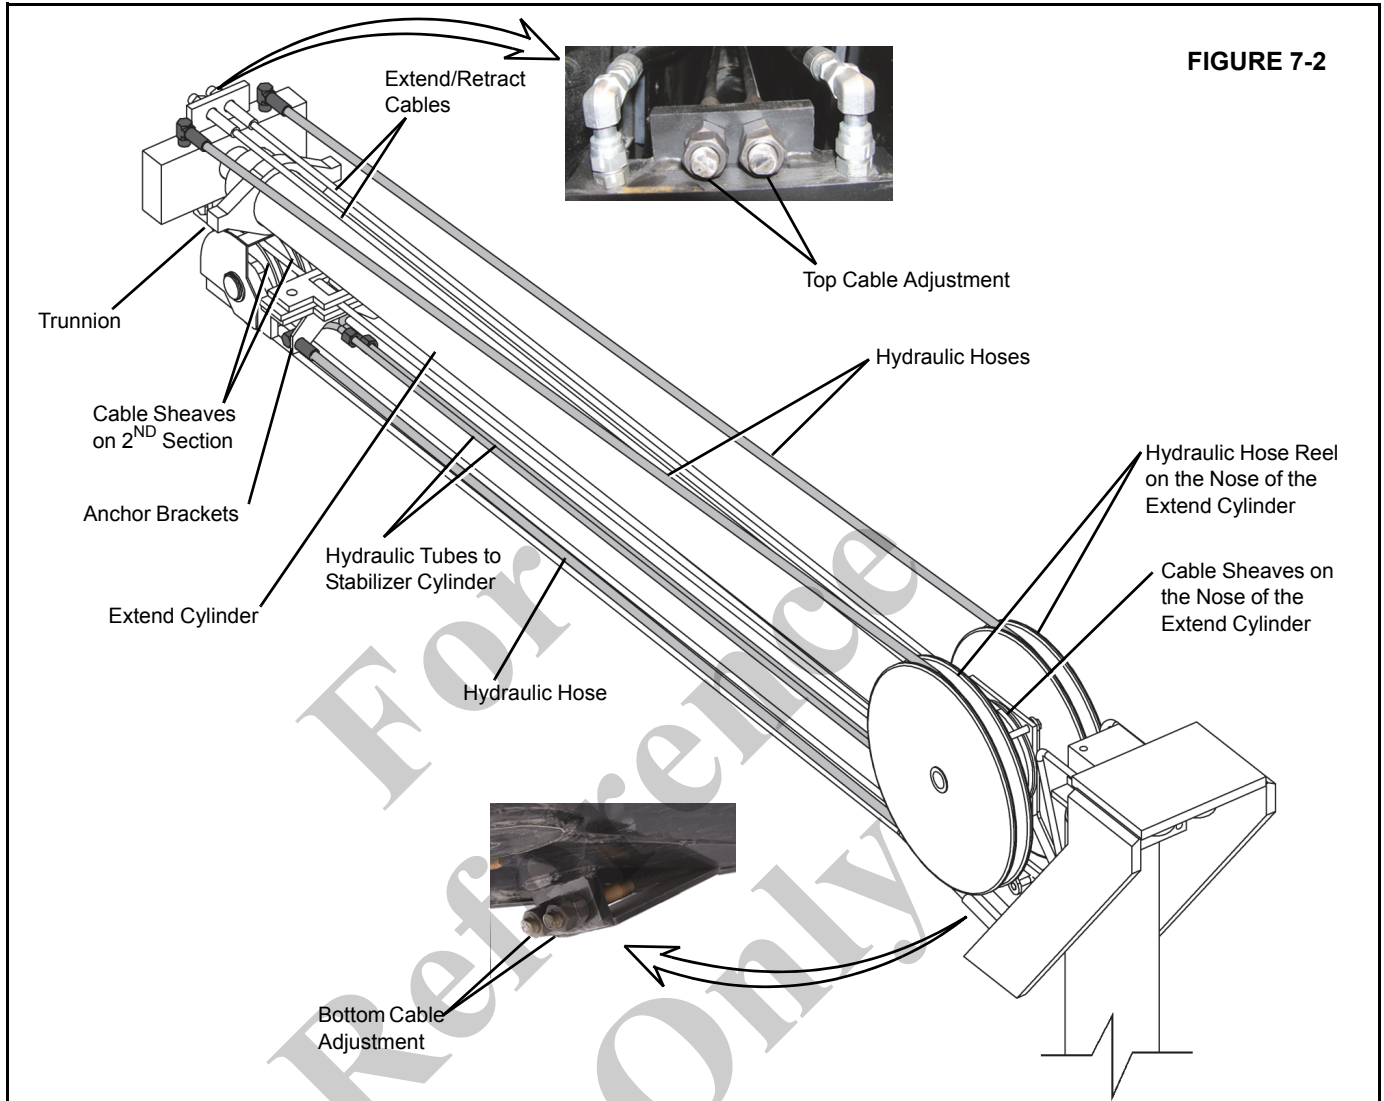

FIGURE 7-2
11. Lift the extend cylinder trunnion out of anchor pockets in the 1ST section beam (Figure 7-2).
13. Disconnect the internal hydraulic hoses from the anchor brackets at the rear of the 2ND section (Figure 7-2).